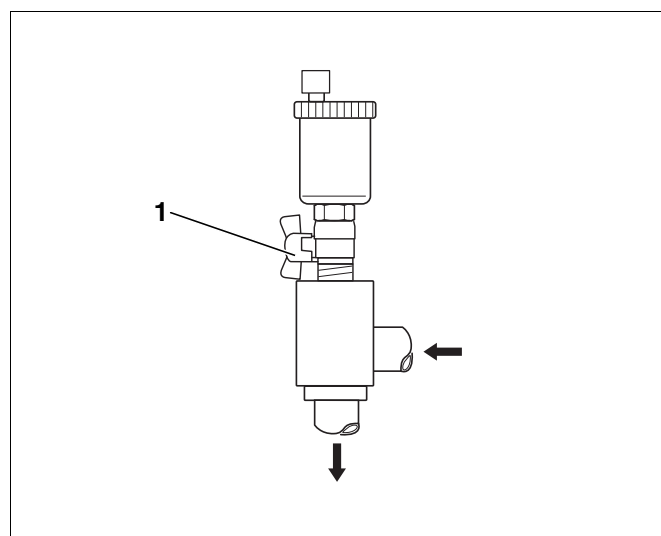

Fig. 17 Automatic air vent valve
- Close the ball valve (Fig. 17, **Item 1**) of the air vent valve after the venting process has been completed.